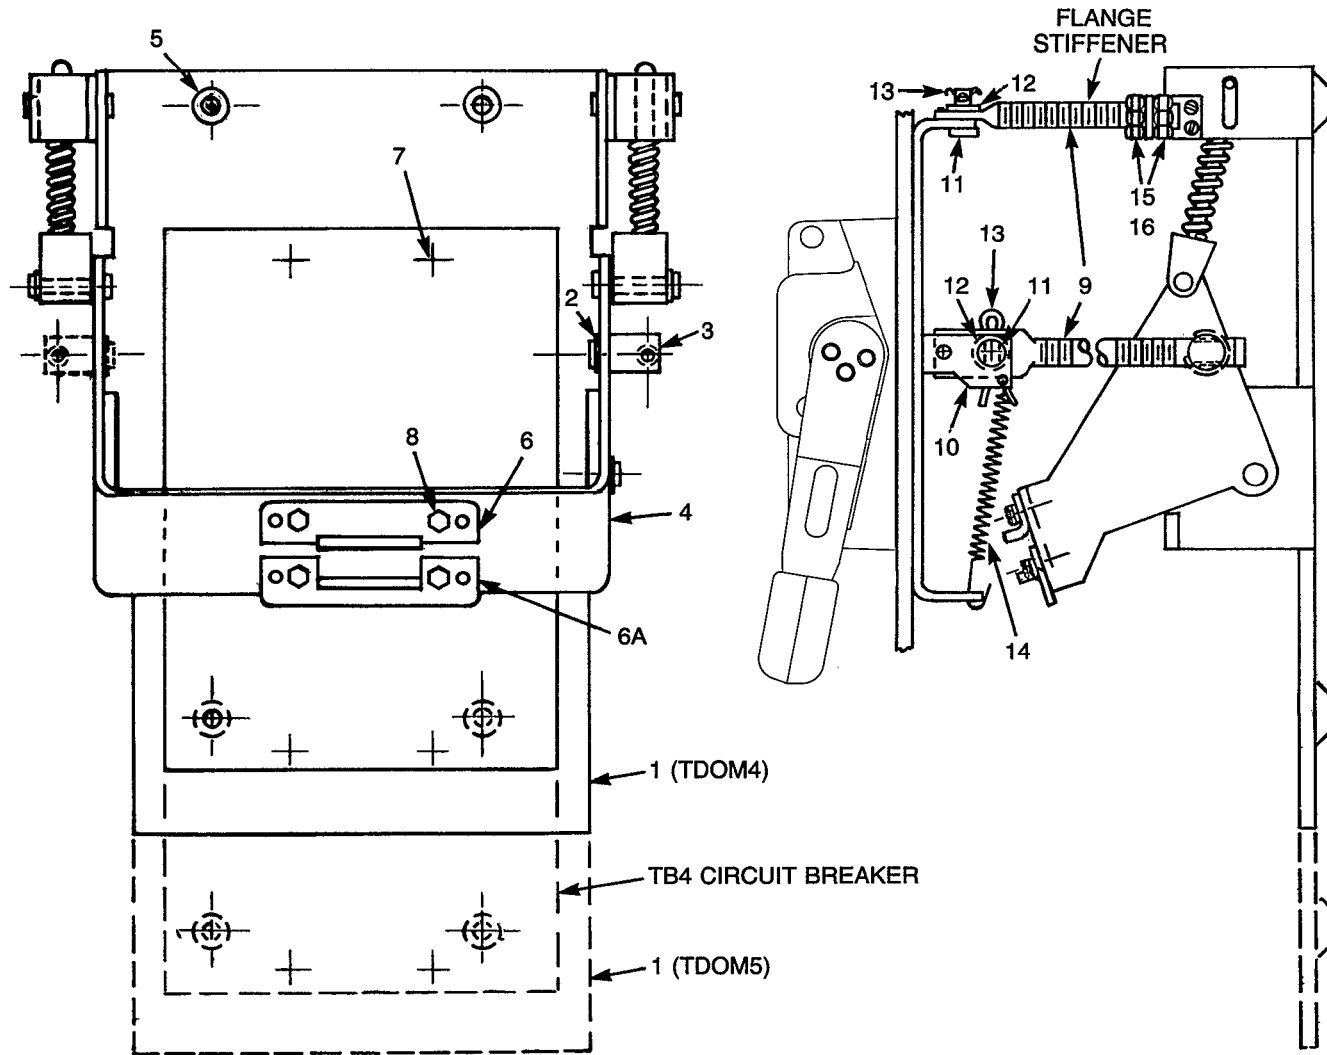
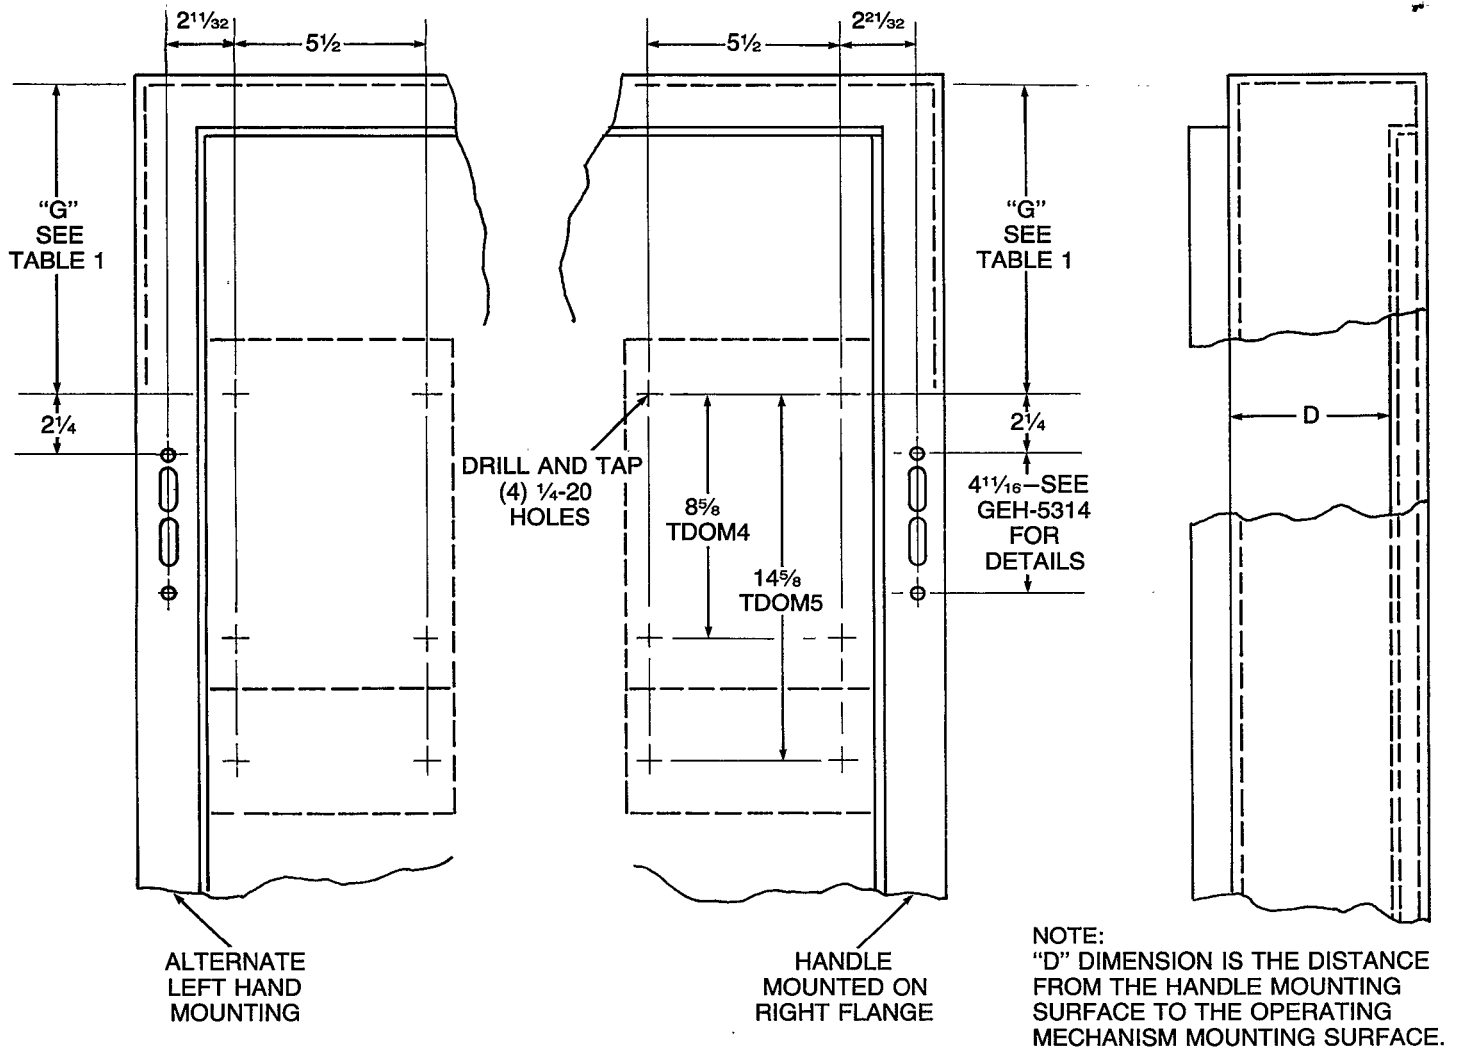

Figure 1.
Figure 2. Customer sub-panel layout and drilling for left or right mounting.
INSTALLATION OF OPERATING MECHANISM—(SEE FIGURE 1.)
1. If the operating mechanism is to be used for right-hand operation proceed to Step 2. If operating mechanism is to be used for left-hand operation, remove E-ring (2), and drive stud (3) from right side of yoke (4), and reassemble to left side of yoke.
2. Determine location of upper right (or upper left, for left-hand operation) operating mechanism mounting hole from Figure 2. Verify that recommended space from operating mechanism upper mounting hole to top of enclosure (or other closer grounded metal parts) will be met. use Table 1 as a guide). Drill and tap four 1/4-20 holes as shown in Figure 2.
4. Mount operating mechanism (1), to subplate using four 1/4-20 x 1/2" screws and lockwashers (5).
5. Refer to Figure 2 and determine "D" dimension, which is the distance from the handle mounting surface to the operating mechanism mounting surface. Cut drive rod (9) (see Figure 1.) 2 1/4 inches shorter in overall length than "D" dimension.
6. Refer to Figure 1 and thread rod (9), into drive stud (3), until it is about flush with the opposite side of the stud (approximately 10 full turns).
7. With handle and mechanism yoke (4) in OFF position, place small hole in upper end of rod over stud in handle drive link (10).
8. Assemble pin (11) through handle drive link and then through hole in rod. Place washer (12) over pin and assemble cotter pin (13) through hole in pin. Do not bend cotter pin at this time. Slight movement of handle may be necessary to align pin and hole.
TriBreak® on TDOM5 (See Figure 1.)**
Table 2. Kit Contents—Replacement Parts (See Figure 1.)